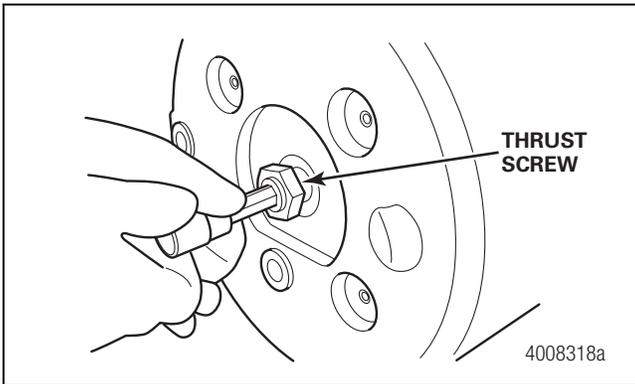

Figure 8.22
3. Install the thrust screw assembly and tighten it to the torque specified in Section 11, then back it off 90 degrees (1/4 turn). Figure 8.22.